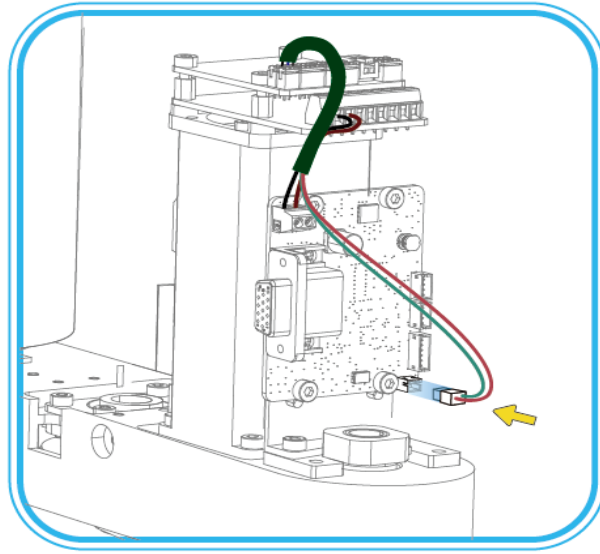

Figure 7.13 Plug the CAN cable
6. Plug the CAN cable, as shown in Figure 7.13.